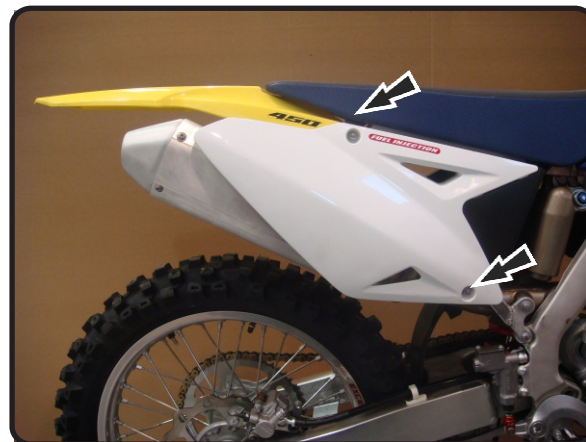

Fig. 1
- Remove right rear number plate (see Fig. 1 for fastener locations).